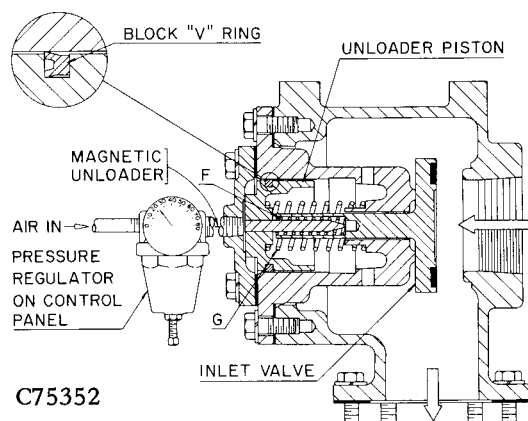

FIGURE 9-4. – INLET VALVE FOR DUOMATIC CONTROL
by opening and closing the inlet valve (Figure 9-4) as in Constant Speed and Timed Duomatic operation. The switch is piped from the final discharge line to the magnetic unloader valve and connected to the electrical circuit in the control box.
**Inlet Valve** (Figure 9-4) – The piston-actuated inlet valve controls the compressor inlet and operates on air pressure from the control circuit. The valve is closed when the preset full pressure is on the system, and open when the pressure in the system falls to a preset minimum. The inlet valve contains piston spring “G” which returns piston and allows the inlet valve to open when the pressure is removed, and valve spring “F” which returns the valve to a closed position on shutdown of the compressor to prevent oil blowback from the compressor through the air filter. The pressure regulator must be set 20–25 PSIG to prevent valve “slam”.